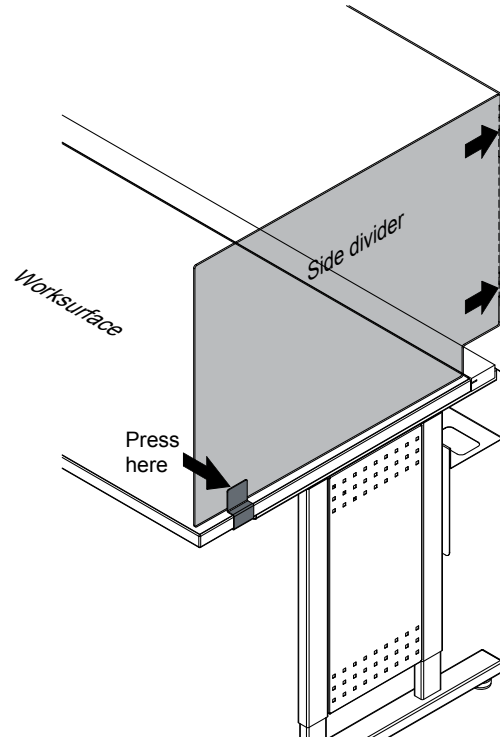

Figure 6
1. Insert the side divider tabs into the right rear divider slots and push down slightly to lock into place. **Figure 6.**